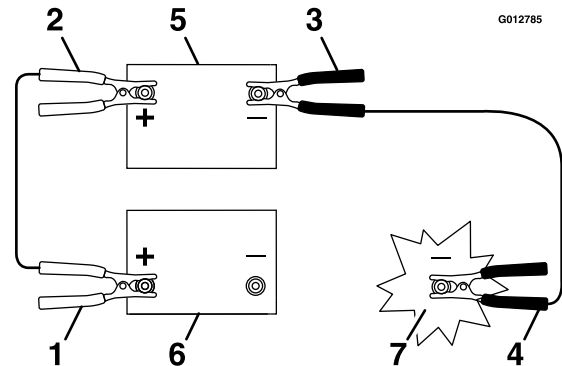

Figure 47
3. Connect the positive (+) cable to the positive (+) terminal of the discharged battery that is wired to the starter or solenoid (Figure 47).